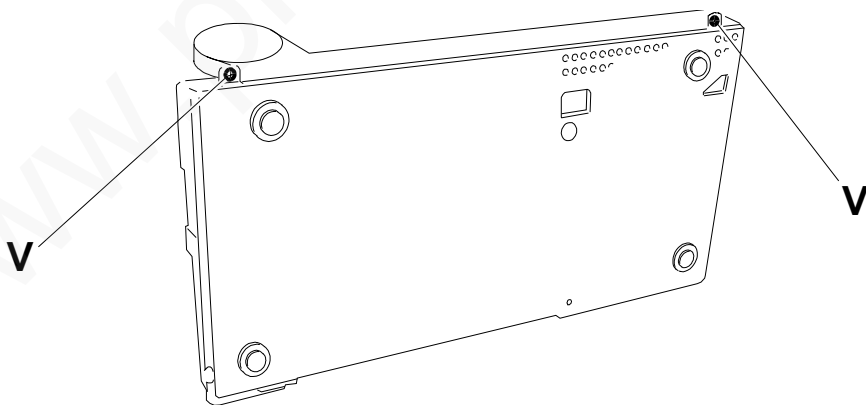

Fig.7-12
- 3) Put the fax machine in the vertical position and remove the two screws **V** (Fig. 7-12):